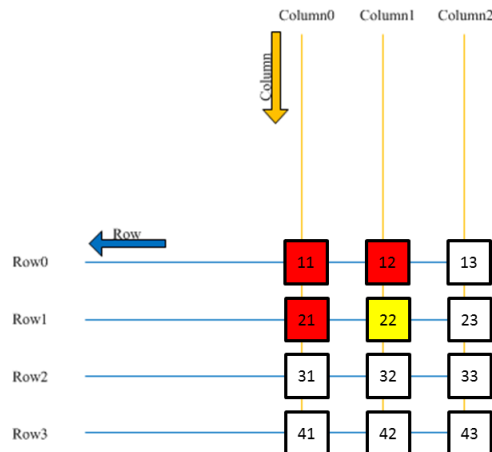

Fig 16-9 Shadow key condition
Shadow key can occur when multiple keys are pressed that can make it appear that additional keys (which are not being pressed) are being pressed. In Fig 16-9, keys 11, 12, and 21 are pressed, which causes a shadow key issue. Since Row1 becomes pulled to ground through key 11 (which is pulled through key 12 when Column1 is transmitting a low), when Column1 is driving low, the RTL8721D sees a low signal at both Row0 and Row1. This falsely triggers key 22 as being pressed (the key highlighted as yellow).